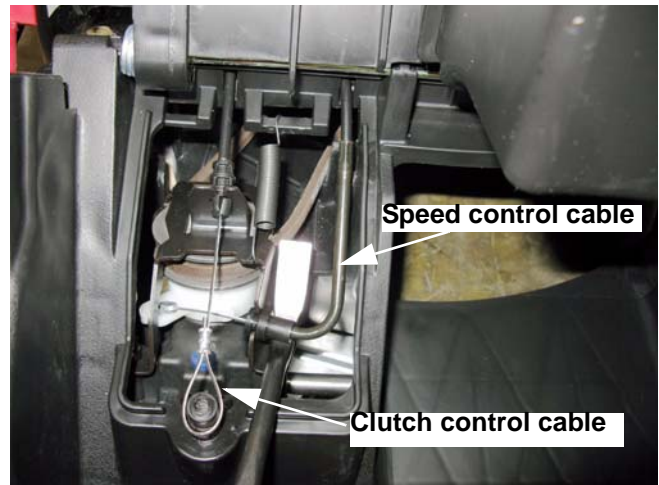

Figure 4.35
3. It is easier to disconnect the drive control cables at the bottom end than at the top. Disconnect the speed control and clutch cables as described in Chapter 3 of this manual. See Figure 4.35.